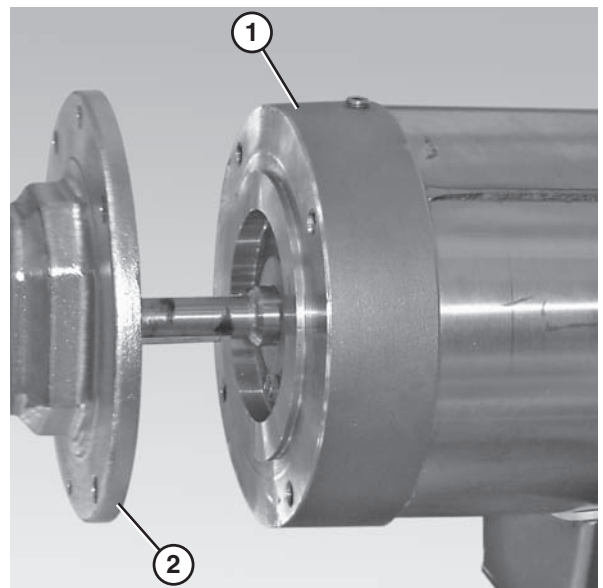

Figure 47
2. Detach the motor (Figure 47, item 1) from the gear reducer (Figure 47, item 2) and set the motor aside.